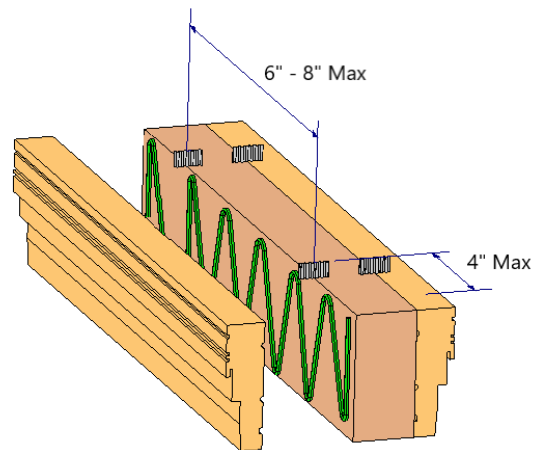

Figure 1
- Apply 3/16" bead of Chem X Pro between mulling material and the unit (figure 1).
- Apply corrugated staples 3" from ends of mull and 6"- 8" spaced down the length of the mull, securing the mull material to the unit (figure 1).